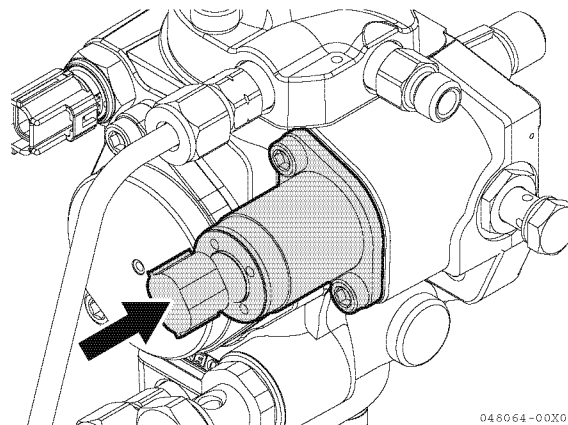

Fig.50-27
- 5 - After inserting the SCV, remove the guide pins while pressing on the SCV, then temporary tighten the bolts (Fig.50-27). Tighten the bolts alternately by hand so that both bolts contact the bearing surface evenly.